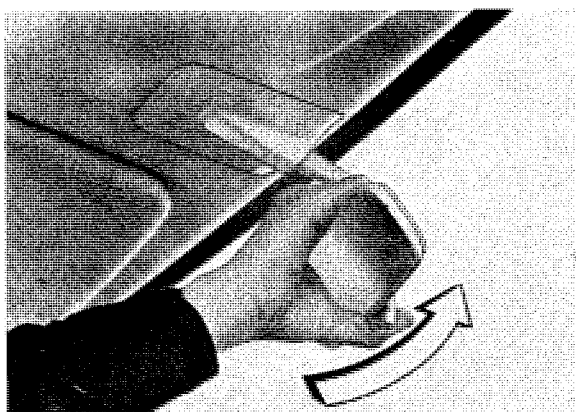

Fig. 8-66. Removing rear view mirror
6. Remove the interior rearview mirror by pressing it forwards (Fig. 8-66). Unscrew the rearview mirror attaching plate from the roof.